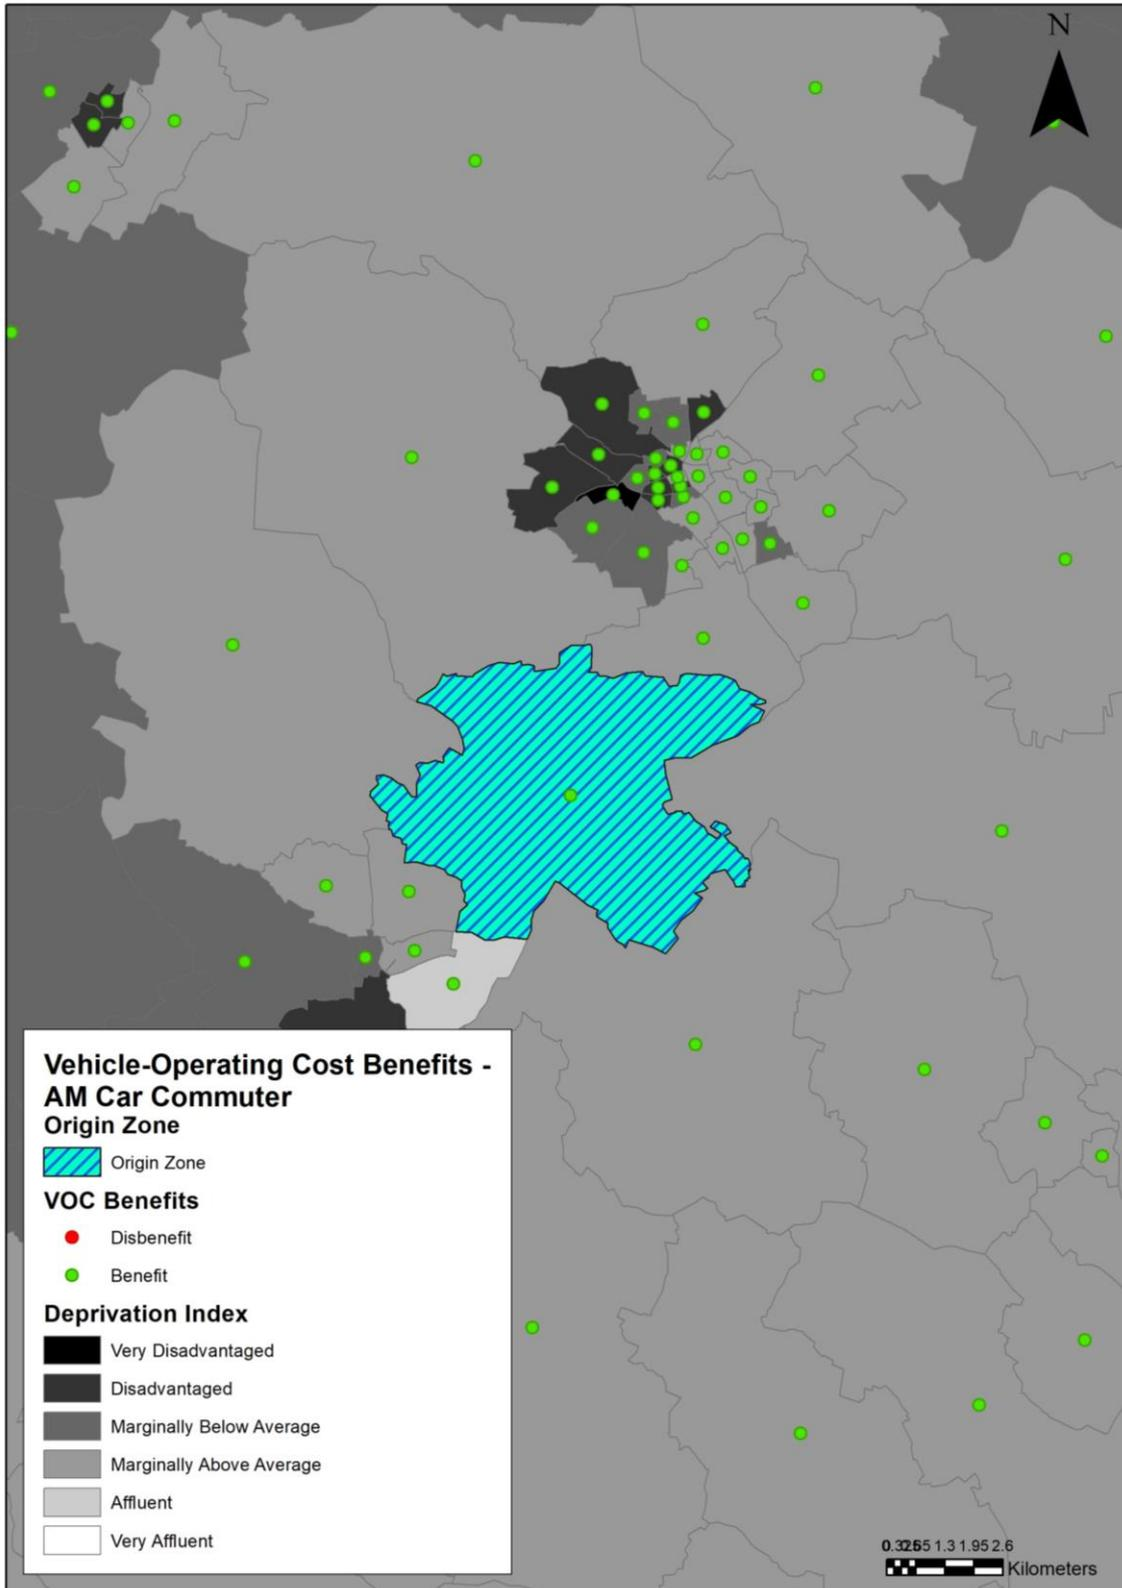

Figure 4.4 Social Inclusion GIS Output – Vehicle Operating Cost Benefits
- **Figure 4.4** shows the other Social Inclusion output, vehicle operating cost benefits during the AM peak for road (car) commuter trips for a zone in the East Regional Model.